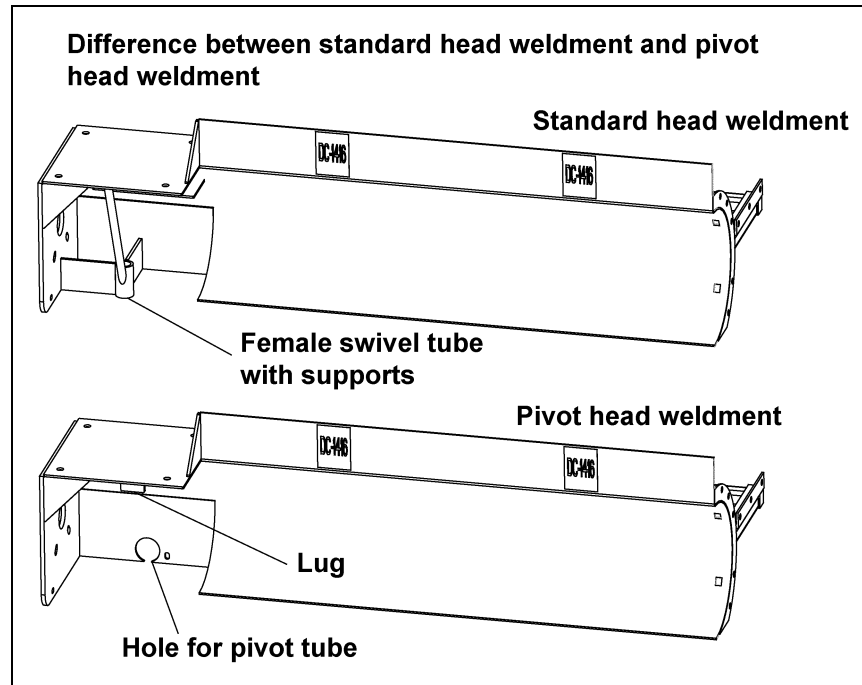

Figure 1A
The following drawing (Figure 1A) is of a 16" pivot sweep head end weldment and a 16" standard sweep head end weldment. There are very few differences between the two. The standard head weldment has the female pivot tube welded to the drive end of the unit. Two (2) plate braces and one (1) pipe brace support this tube. The pivot head weldment has a lug welded to the underside of the motor mount plate. This lug is for attachment of the sweep pivot rod assembly. There is a large hole in the rear plate for the center support tube assembly to pass through. Next to the large hole is a slot that the center support mounts to.